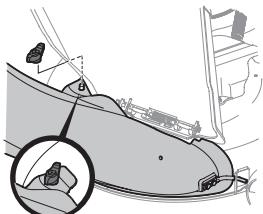

Figure 16
4. Secure the chute elbow to the deck using the wing knob (720-04122) from hardware pack 689-02200. See Inset Figure 16.